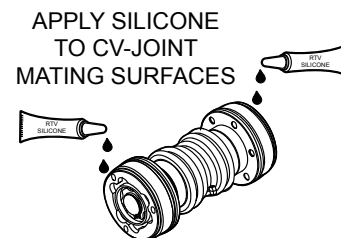

Figure 17. Applying RTV Silicone
1. Apply a thin coat of RTV silicone (Figure 17) to mating surfaces of CV axle assembly
1. Apply a thin coat of RTV silicone (Figure 17) to mating surfaces of CV axle assembly.